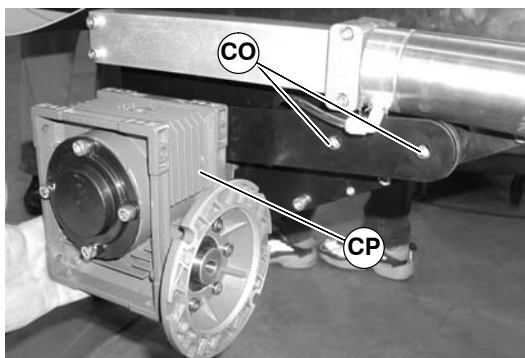

Figure 76
3. Remove screws (CO of Figure 76) and remove gearmotor (CP) (NOTE: Gearhead shown with motor removed for clarity, motor can remain attached to gearhead).